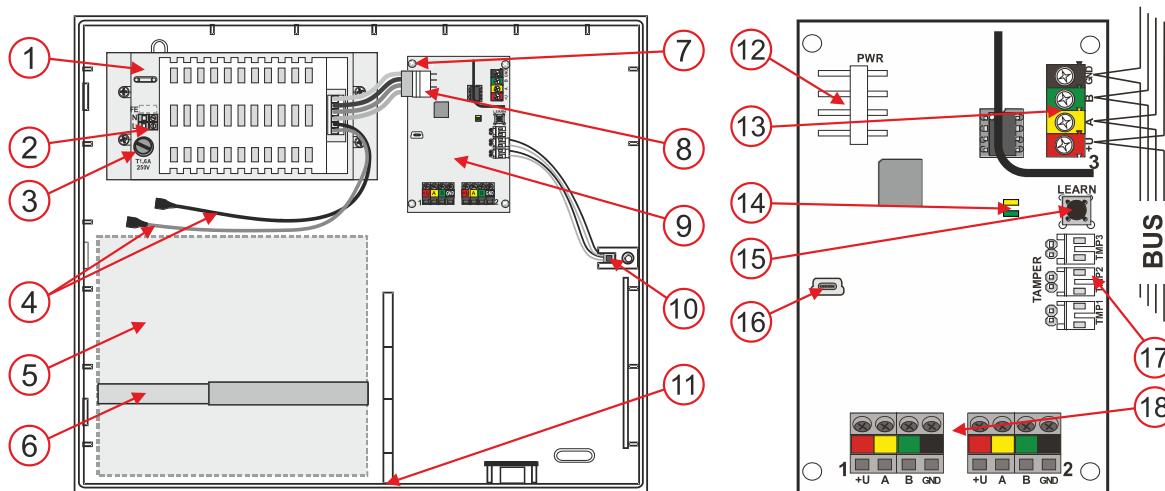

Figure 3: Description of internal parts of the product
1. Punch the holes in the PLV-CP-L (11) plastic housing for BUS cables and supply cable.
2. Install the rear tamper contact (10).
4. Install the JA-107PWR power supply (1) and booster module (9) inside the housing and fix it with 4 screws (7) to the position marked on Figure 3.
5. Plug the front and rear tamper contact (10) into the connectors (17) on the module. Block any unused tamper inputs by jumper (pins are next to every connector on the left side).
6. Connect the bus cable from the control panel (13) and bus output cables (18).